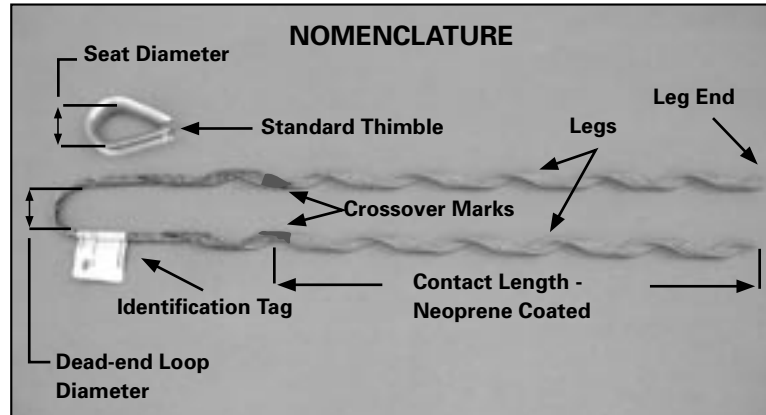

FIGURE 1 - NOMENCLATURE & THIMBLE
1.01 Hook loop of dead-end onto fitting hardware at the structure. (Figure 2). The loop diameter of the dead-end is approximately 1.5" (38.1 mm) and can be attached directly to structure fittings that have a 1" (25.4 mm) to 1-5/8" (41.4 mm) seat diameter. (Figure 3). Other attachment fittings (Figure 4) may require a 1/2" (12.7 mm) thimble to properly support the dead-end loop. A thimble is shown in figure 1.